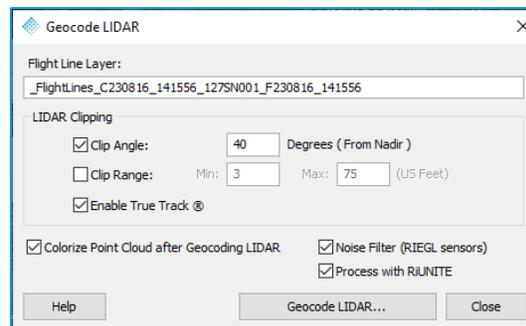

Figure 79 - Geocode LiDAR dialog
2. Select the **Geocode LiDAR** button  on the Sensor tab (Figure 78) to open the Geocode LiDAR dialog (Figure 79).
3. The Geocode LiDAR dialog (Figure 79) is where the user will select the calibration file, and LiDAR clipping settings. A 3D point cloud, LAS files, will be generated after completing this step.